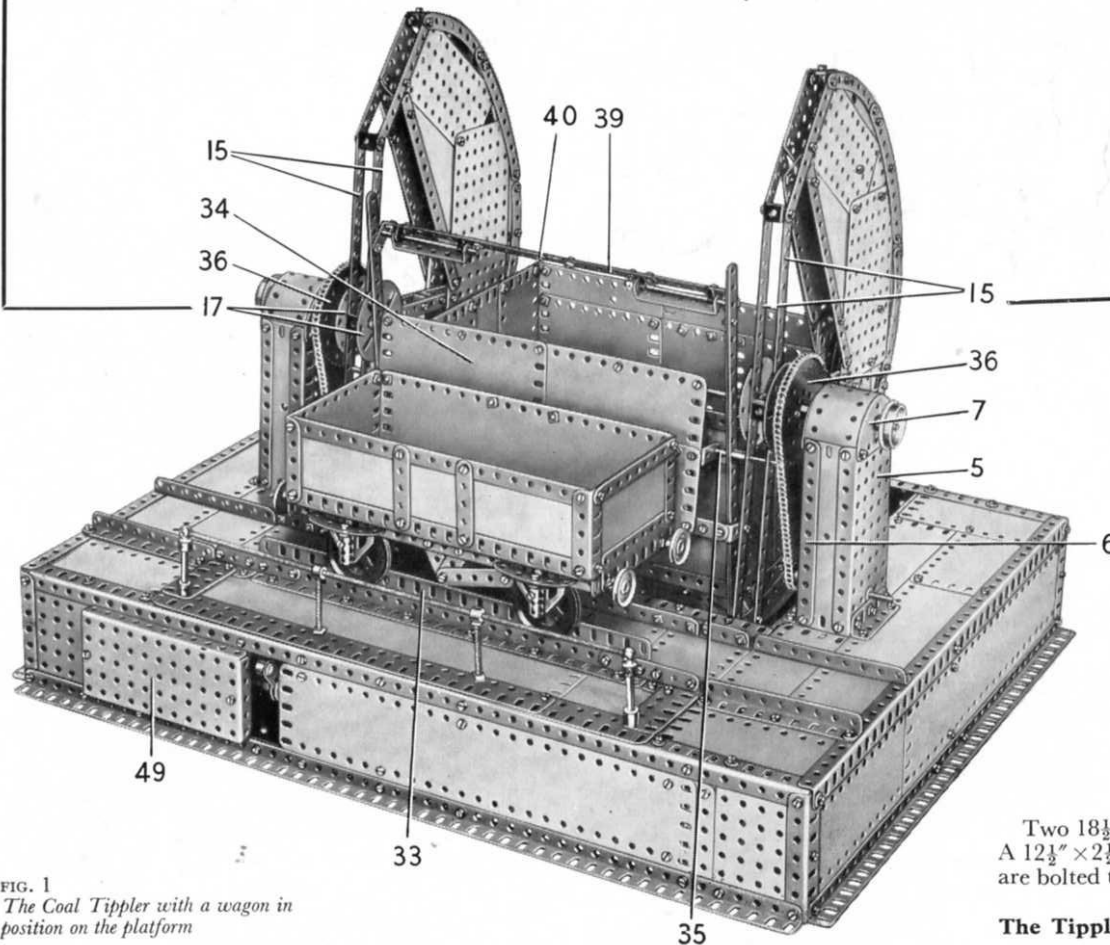
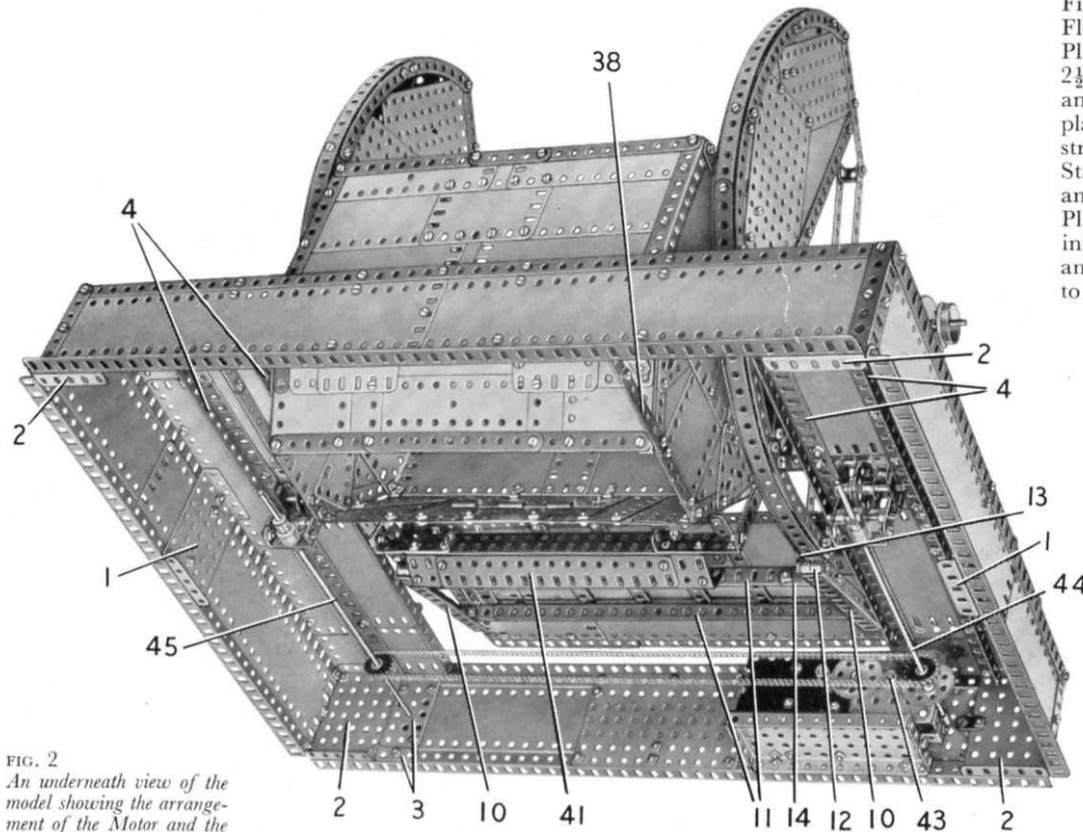
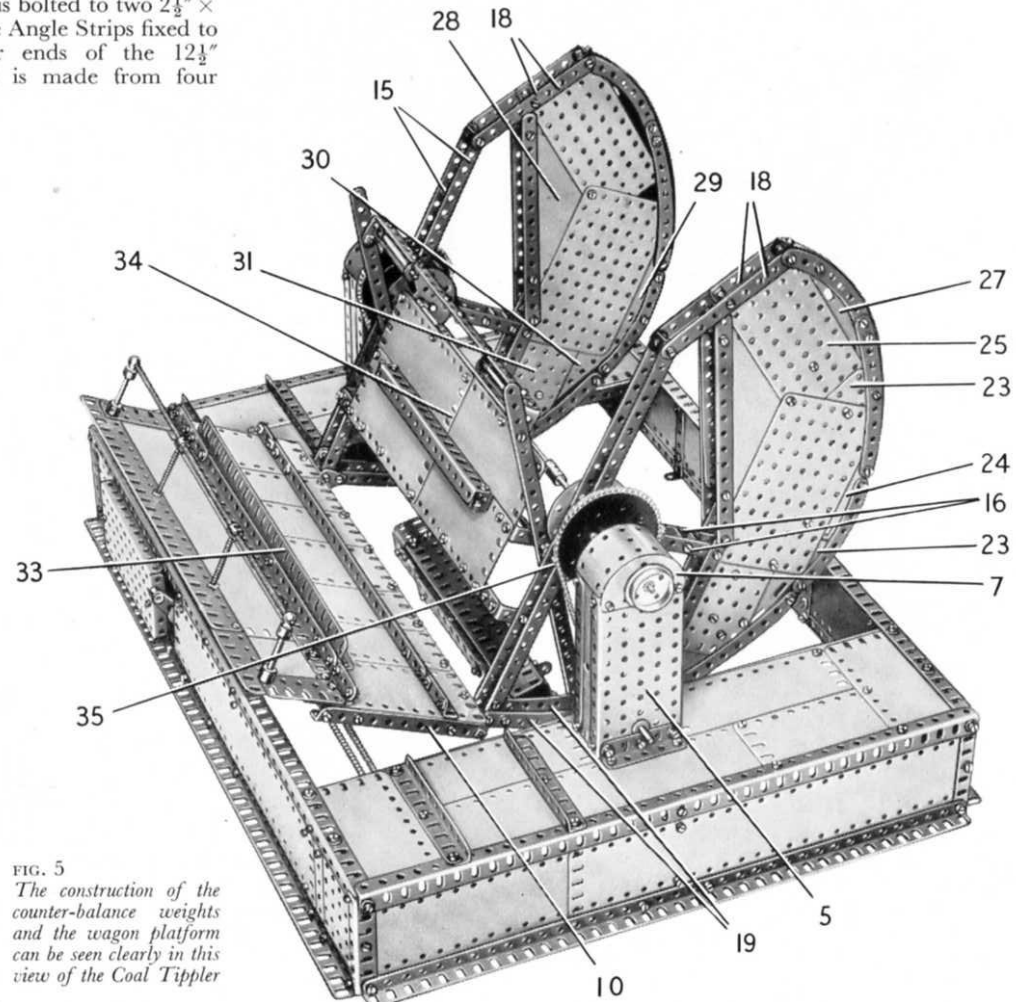
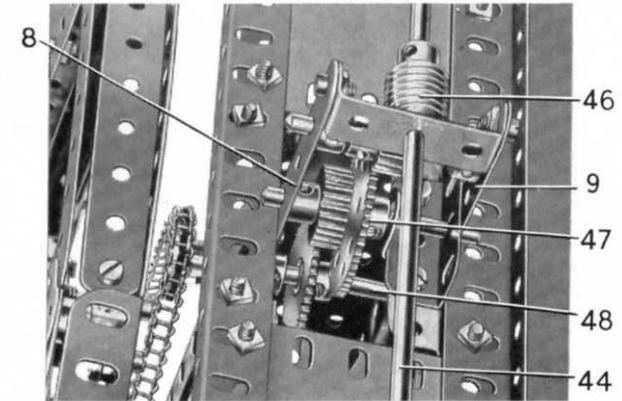

FIG. 1
FIG. 2
FIG. 5
FIG. 7
## Construction of the Model: The Base (Fig. 2)
Each side of the base consists of two  $18\frac{1}{2}$ " Angle Girders joined at their ends by  $3\frac{1}{2}$ " Angle Girders, and connected at the centre by a  $3\frac{1}{2}$ "  $\times$   $2\frac{1}{2}$ " Flanged Plate (1) (Fig. 2). The sides are filled in by  $12\frac{1}{2}$ "  $\times$   $2\frac{1}{2}$ " Strip Plates. The sides are connected at the front and the back by  $24\frac{1}{2}$ " Angle Girders, with the corners strengthened by  $3\frac{1}{2}$ "  $\times$   $2\frac{1}{2}$ " Flanged Plates (2). The  $24\frac{1}{2}$ " Angle Girders are braced at the centre by  $5\frac{1}{2}$ "  $\times$   $3\frac{1}{2}$ " Flat Plates, and at the front two  $3"$   $\times$   $1\frac{1}{2}"$  Flat Plates (3) are bolted between the Girders. The front and the back are completed by  $12\frac{1}{2}$ "  $\times$   $2\frac{1}{2}"$  Strip Plates, as shown in Figs. 1 and 2.
Two  $18\frac{1}{2}"$  Angle Girders (4) are bolted across the top of the base at each end (Fig. 2). A  $12\frac{1}{2}"$   $\times$   $2\frac{1}{2}"$  Strip Plate, three  $4\frac{1}{2}"$   $\times$   $2\frac{1}{2}"$  Flexible Plates and two  $5\frac{1}{2}"$   $\times$   $2\frac{1}{2}"$  Flexible Plates, are bolted to these Girders at each end to fill in the top.
## The Tippler Supporting Columns (Figs. 1, 2, 3, 5 and 7)
The outer face of each column is a  $5\frac{1}{2}"$   $\times$   $2\frac{1}{2}"$  Flanged Plate (5) fixed to a  $2\frac{1}{2}"$  Angle Girder bolted to one of the Girders (4). The inner face is formed by two  $5\frac{1}{2}"$  Angle Girders (6) supported by a  $2\frac{1}{2}"$  Angle Girder fixed to the second of the Girders (4). The Flanged Plate (5) and the Girders (6) are extended upward by Semi-Circular Plates (7) (Fig. 5), and the sides and top of the column are filled in by  $5\frac{1}{2}"$   $\times$   $1\frac{1}{2}"$  Flexible Plates. A  $7\frac{1}{2}"$  Strip (8) (Fig. 7) is bolted to the inner face of the column, and a  $2\frac{1}{2}"$  Strip (9) is fixed to the Flanged Plate (5) and to a  $1\frac{1}{2}"$  Angle Girder attached to one of the Girders (4). The lower ends of Strips (8) and (9) are connected by a  $1\frac{1}{2}"$   $\times$   $\frac{1}{2}"$  Double Angle Strip.
#### The Tippler Platform and Counter-Balance Weights (Figs. 1, 2, 3, and 5)
The frame that supports each counter-balance consists of two  $12\frac{1}{2}"$  Strips (15) (Fig. 5) bolted to the Bell Crank (12) and to Corner Bracket (13). These Strips are connected at a point 14 holes from their lower ends, by a Double Bracket, and at their upper ends by another Double Bracket. The bolts that fix the centre Double Bracket secure also two  $5\frac{1}{2}"$  Strips (16), to each of which is fastened a Face Plate (17) (Fig. 1). The Strips (16) are connected by a Double Bent Strip.
Fig. 5. The outer face of each counter-balance is filled in by a  $2\frac{1}{2}" \times 2\frac{1}{2}"$  Triangular Flexible Plate (21), a  $4\frac{1}{2}" \times 2\frac{1}{2}"$  Flat Plate (22), a  $3\frac{1}{2}" \times 1\frac{1}{2}"$  Triangular Flexible Plate, a  $5\frac{1}{2}" \times 3\frac{1}{2}"$  Flat Plate, two  $2\frac{1}{2}" \times 1\frac{1}{2}"$  Triangular Flexible Plates (23), a  $2\frac{1}{2}" \times 1\frac{1}{2}"$  Flexible Plate (24), a  $5\frac{1}{2}" \times 2\frac{1}{2}"$  Flat Plate (25), a  $5\frac{1}{2}" \times 2\frac{1}{2}"$  Flexible Plate and a  $3\frac{1}{2}" \times 2\frac{1}{2}"$  Triangular Flexible Plate (27). Three  $12\frac{1}{2}"$  Angle Girders placed together are bolted on the inside of these Plates to add to the weight of the structure, and the inner edges of the counter-balance are finished by  $5\frac{1}{2}"$  and  $7\frac{1}{2}"$  Strips as shown. The inside face of each counter-balance is formed by a  $5\frac{1}{2}" \times 2\frac{1}{2}"$  and a  $5\frac{1}{2}" \times 3\frac{1}{2}"$  Flat Plate, a  $5\frac{1}{2}" \times 2\frac{1}{2}"$  Flexible Plate (28), a  $2\frac{1}{2}" \times 1\frac{1}{2}"$  Flexible Plate (29), a  $4\frac{1}{2}" \times 2\frac{1}{2}"$  Flexible Plate (30) and a  $4\frac{1}{2}" \times 2\frac{1}{2}"$  Flat Plate (31). The inner and outer faces of the counter-balance are connected by Double Brackets, and two curved  $12\frac{1}{2}"$  Strips are fixed to the outer edges by Angle Brackets.
The front section of the tippler platform consists of a  $12\frac{1}{2}'' \times 2\frac{1}{2}''$  Strip Plate and a  $4\frac{1}{2}'' \times 2\frac{1}{2}''$  Flexible Plate, overlapped three holes and edged by a  $12\frac{1}{2}''$  and a  $5\frac{1}{2}''$  Flat Girder. The platform is completed by five  $5\frac{1}{2}'' \times 2\frac{1}{2}''$  Flexible Plates and two  $4\frac{1}{2}'' \times 2\frac{1}{2}''$  Flexible Plates (Fig. 5). These Plates are strengthened underneath by two built-up strips, placed one along the rear edge of the platform and one below the join between the Strip Plate and the Flexible Plates. Each built-up strip is made from two  $9\frac{1}{2}''$  Strips overlapped seven holes. The joins between the  $5\frac{1}{2}'' \times 2\frac{1}{2}''$  Flexible Plates are strengthened by  $5\frac{1}{2}''$  Strips. Two  $5\frac{1}{2}''$  Angle Girders (32) (Fig. 3), are bolted underneath the platform and a Fishplate *lock-nutted* to each of these Girders is bolted to one of the Girders (10).
A backplate (34) (Fig. 1) above the platform is formed by four  $5\frac{1}{2}'' \times 2\frac{1}{2}''$  Flexible Plates bolted together, with the joins and edges strengthened by two  $4\frac{1}{2}''$  Strips and six  $5\frac{1}{2}''$  Strips. This backplate is connected to two of the Strips (15) by  $1'' \times 1''$  Angle Brackets, and two further  $1'' \times 1''$  Angle Brackets are passed over a made-up rod (35). This Rod consists of a 1" Rod and two  $6\frac{1}{2}''$  Rods connected by Couplings, and it is held in the Strips (15) by two Collars, and two further Collars space the backplate from Strips (15). Two  $7\frac{1}{2}''$  Angle Girders are attached to the centre of the backplate by Angle Brackets.
#### The Wagon Locking Beam (Figs. 1 and 2)
As the tippler operates the wagon is held against the rails on the platform by the swinging beam (39) (Fig. 1) which bears against the top of the wagon. The side-members of this beam are each formed by two  $12\frac{1}{2}''$  Strips placed face to face and pivoted 12 holes from their top ends on the rod (35). The upper ends of these Strips are connected by a built-up strip (40), bolted to  $1'' \times 1''$  Angle Brackets. The strip (40) consists of a  $5\frac{1}{2}''$  Strip at each end overlapping a centre  $5\frac{1}{2}''$  Strip by five holes. The end  $5\frac{1}{2}''$  Strips have  $2\frac{1}{2}''$  Strips bolted to them for strengthening purposes. A  $2\frac{1}{2}'' \times \frac{1}{2}''$  Double Angle Strip at each end of the strip (40) is pivoted on a  $3\frac{1}{2}''$  Rod held by Spring Clips in two Angle Brackets bolted to the strip.
#### Construction of the Wagon (Fig. 1)
#### The Operating Mechanism (Figs. 2, 4 and 7)
A ½" Pinion on the Motor armature shaft drives a 57-tooth Gear on a 2½" Rod that carries also a ½" Pinion (42) (Fig. 4). This Pinion engages a 57-tooth Gear on another 2½" Rod fitted with a ½" Pinion (43) (Fig. 2), and the latter Pinion drives a 57-tooth Gear on an 11½" Rod (44) mounted as shown. Rod (44) carries a 1" Sprocket that is connected by Chain to a similar Sprocket on another 11½" Rod (45).
Each Rod (44) and (45) carries a Worm (46) (Fig. 7), which drives a ½" Pinion on a 2" Rod, and this Pinion engages a 57-tooth Gear (47) on another 2" Rod (Fig. 7). A ¾" Pinion is fixed also on this Rod and drives a 50-tooth Gear on a 3" Rod (48). A ¾" Sprocket on Rod (48) is connected by Chain to one of the 3" Sprockets (36).